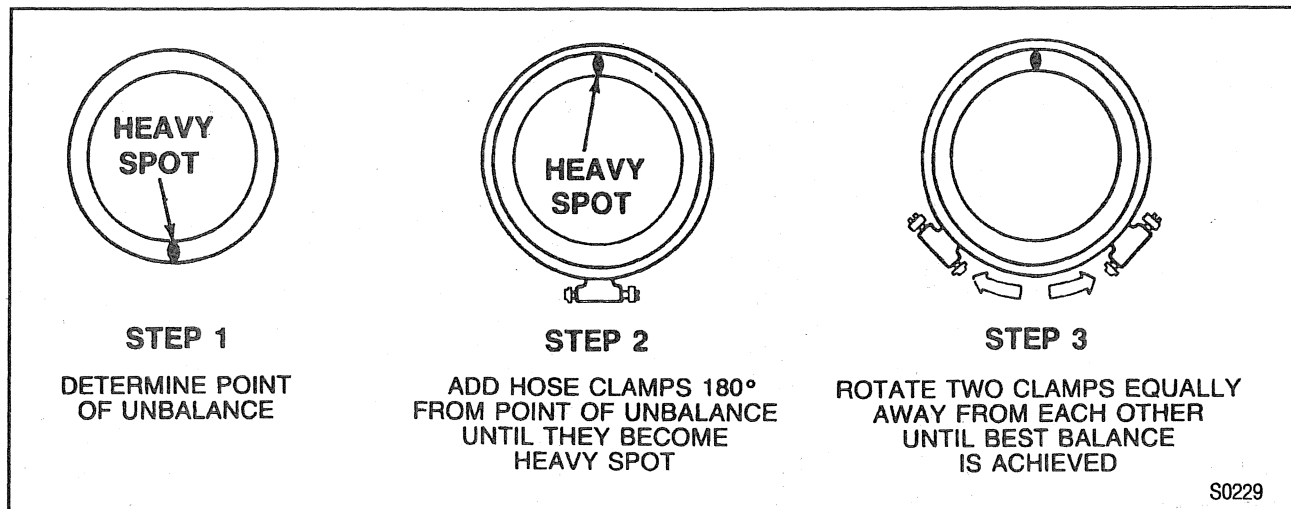

Figure 20—Positioning Hose Clamps to Achieve Best Balance
7. Rotate two of the hose clamps equal distances away from each other toward the top (one on each side of the position) in small increments until the best balance is achieved (figure 20). In some cases, it may be necessary to use one clamp or possibly three clamps in order to obtain a good balance. Replace the propeller shaft if three hose clamps do not correct the problem.